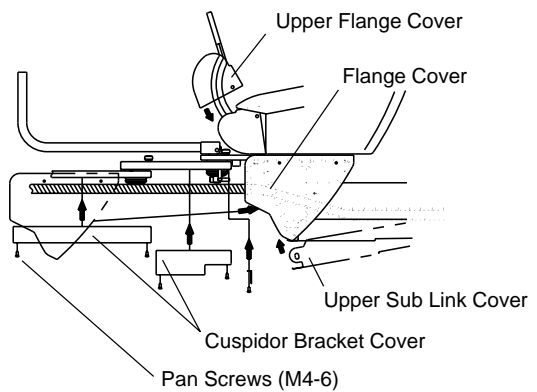

Fig.3-5-11 Fixing Cuspidor Bracket Cover
- (11) Fix the cuspidor bracket covers by pan screws (M4-6). **(Fig.3-5-11)**
(12) Fix the frange cover and upper flange cover and upper sub link cover by pan screws (M4-6). **(Fig.3-5-11)**